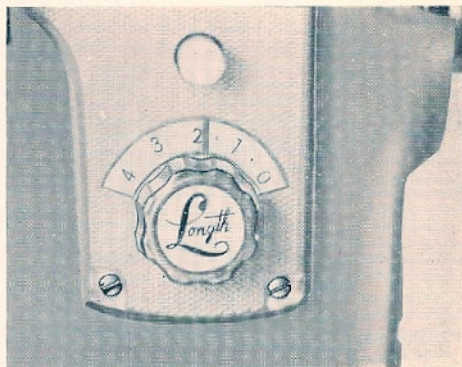

Fig. 23
The length of the stitch can be changed with the stitch length dial (Fig. 23). In order to set a certain length of stitch, turn the stitch length dial so as to the indicator is facing the selected number on the scale. The length of the stitch is increasing from 0~4. The normal stitch is 2.
- Push reverse stitch button located above the stitch length (Fig. 23) as far as it will go. The machine will then sew in reverse with the same stitch length as previously selected. During reverse sewing, push the reverse stitch button all the time. After release the machine resumes forward sewing with the same stitch length.